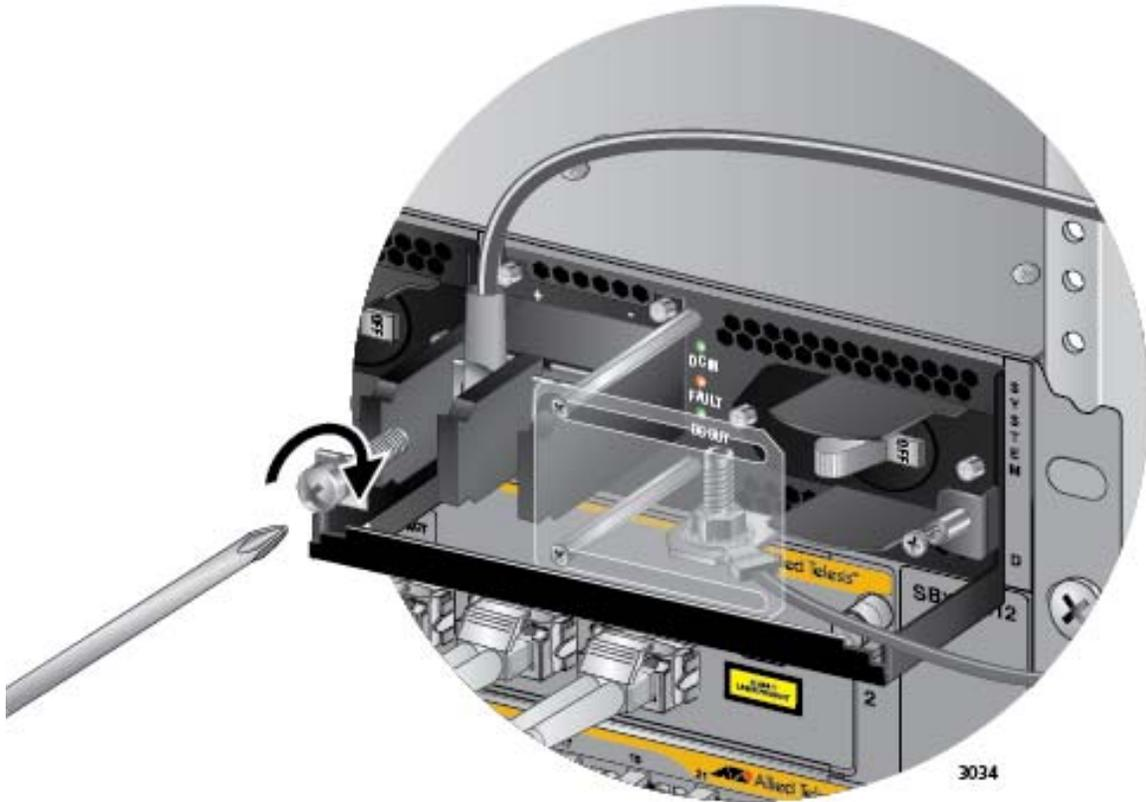

Figure 126. Connecting the Positive (+) Power Wire with a Straight Terminal
6. With a #3 Phillips-head screwdriver, connect the positive (+) power lead wire to the positive terminal on the power supply, with one of the terminal screws removed in the previous step. The positive terminal is on the left. You may attach the terminals with the wires either above or below the terminal block. Figure 126 on page 194 shows the positive wire above the terminal block.